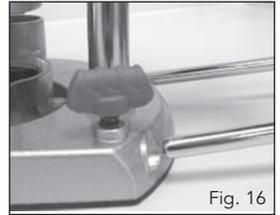

Fig. 16
2. Feed the two bars on the parallel guide fence (7) through the holes in the router base, located on the right hand side of the router in the feed direction. This will assist in keeping the guide flush with the side of the work piece (Fig 16).
3. Adjust the distance between the router bit and parallel guide fence (7) by moving the guide until it is at the correct distance from the router bit and the cut you are making.
4. Tighten the parallel guide locking knobs (13) by rotating clockwise, to hold the parallel guide fence (7) in position.